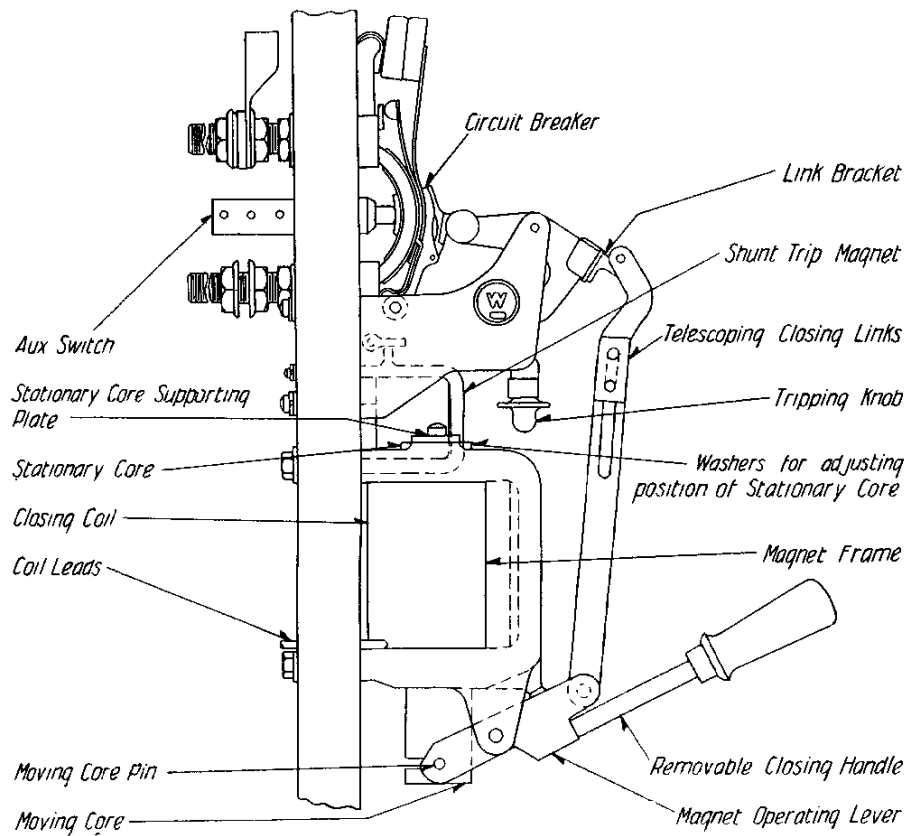

FIG. 14—SOLENOID CLOSING MECHANISM FOR NON-TRIP FREE BREAKERS
**Solenoid Closing Mechanism (Figure 14)—** Circuit-breakers for electrical re-
on the breaker latch when the breaker is closed electrically. This adjustment may be made by adding or removing washers under the supporting plate of the stationary core. See Figure 14.